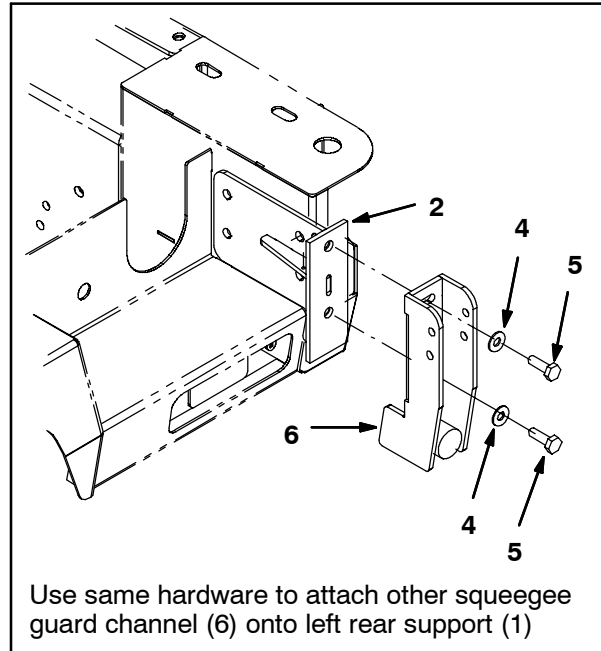

FIG. 5
- Use two hex screws (5) and two flat washers (4) to install a squeegee guard channel (6) onto the right rear support (2) and the left rear support (1). Refer to Fig. 5.